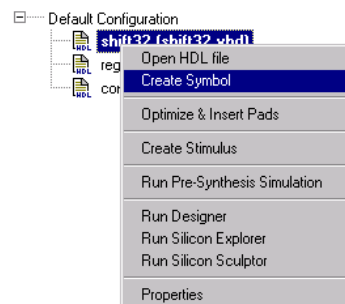

Figure 10 Creating ViewDraw symbols
1. In the Design Hierarchy tab, select *shift32*, then right mouse click and select **Create Symbol** (Figure 10). A ViewDraw symbol will be created for the shift register.